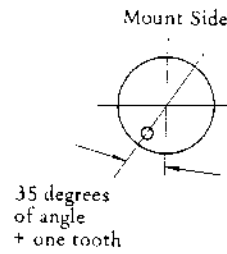

Fig. 6
- 2) Set the dowel of Counter Cam (19-9996) at the position in Fig. 6, 35 degrees of angle  $\pm$  one tooth.